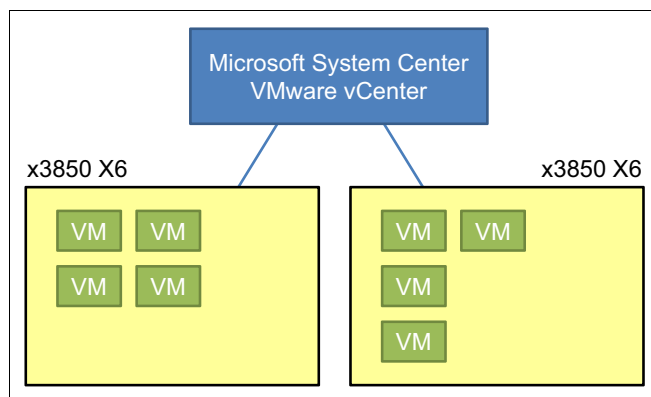

Figure 7-21 Start a firmware update with upward integration module (UIM)
1. The user starts an update, as shown in Figure 7-21.